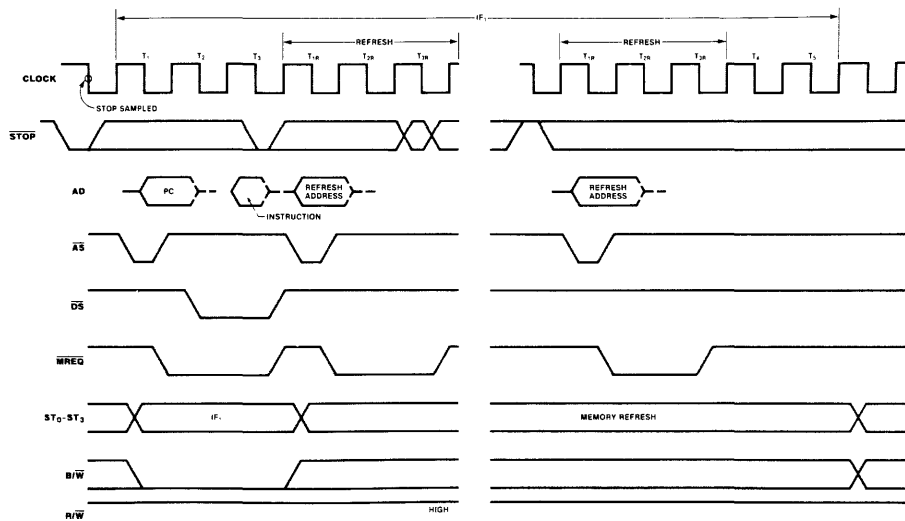

Figure 9-10. Stop Timing
9.6.4 Stop Request. As shown in Figure 9-10, the \overline{STOP} pin is normally sampled on the falling clock edge immediately preceding an initial instruction fetch cycle. If \overline{STOP} is found Low, the CPU enters Stop/Refresh state and a stream of memory refresh cycles is inserted after the third clock cycle in the instruction fetch. The ROW field in the Refresh Counter is incremented by two after every refresh cycle.